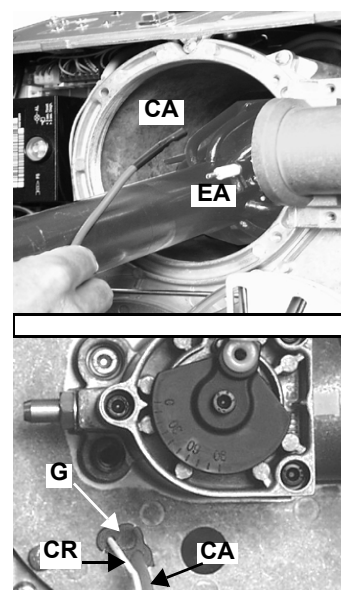

Fig. 32
- Check the ignition and detection electrodes, clean and adjust if necessary (see Fig. 32). In case of doubt, check the detection current according to the schemes in Fig. 36..
- 2 Remove the connector **CR** of the ionization electrode (Fig. 32).
- 3 Unplug cable **CA** of the ignition electrode **EA** (Fig. 32) and extract it from the flange by removing the rubber **G** (Fig. 32).